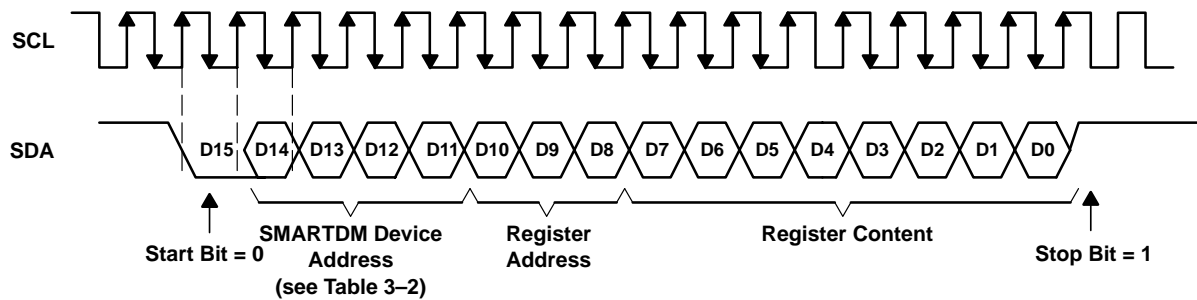

Figure 3–10. S²C Programming
The S²C is a write-only interface selected by programming bits D1-D0 of control register 2 to 01. The SDA input is normally in a high state, pulled low (START bit) to start the communication, and pulled high (STOP bit) after the transmission of the LSB. Figure 3–10 shows the timing diagram of S²C. The S²C also supports a broadcast mode in which the same register of all devices in cascade is programmed in a single write. To use S²Cs broadcast mode, execute the following steps:
2. Write data to program control register as specified in Figure 3–10 with bits D14–D11 = XXXX (don't care).